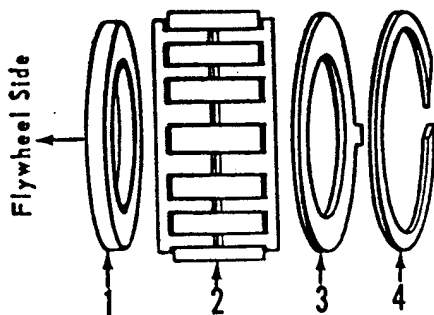
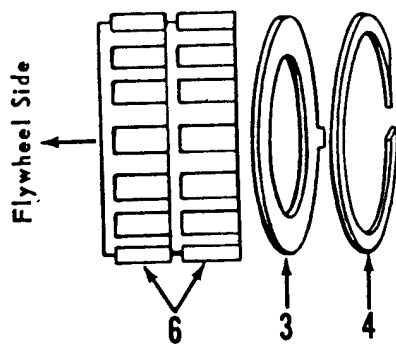

FIGURE 1
FIGURE 3
After installing and locking new bushing, refit bearing with roller bearing assembly 29650-54. This bearing is described under FIG. 3 of Shop Dope No. 348. This bearing has greater bearing area than earlier bearings used. Beginning with engine No. 54FL5010, this bearing was used in production for the remainder of the 1954 season.
Figure 1 on page 1 shows roller bearing and adjacent parts in correct order of assembly, as used in all OHV model engines from 1940 to late 1953. The bearing complete (2) part number 24650-36 is shown as it is being supplied on parts order.
NOTE: This bearing, carrying the same part number (24650-36) as bearing shown in Fig. 1, was used for only a short period of time and was then discontinued and replaced with bearing shown in Fig. 3. Bearing shown in Fig. 1 is now furnished on parts order calling for part number 24650-36.
NOTE: Spacer 24695-40 shown in Figs. 1 and 2 cannot be used with this bearing.
Figure 3 on page 1 shows roller bearing and adjacent parts in correct order of assembly as used in 1954 OHV model engines from engine number 54FL 5010 to the season's end. This bearing (24650-54) will not fit 74 and 80 cu. in. Side-Valve models or OHV models earlier than 1940.
RECOMMENDATION - Use only the bearing shown in Fig. 3 for all servicing of OHV engines from 1940 to and including 1954, as it has greater bearing area than earlier bearings used.